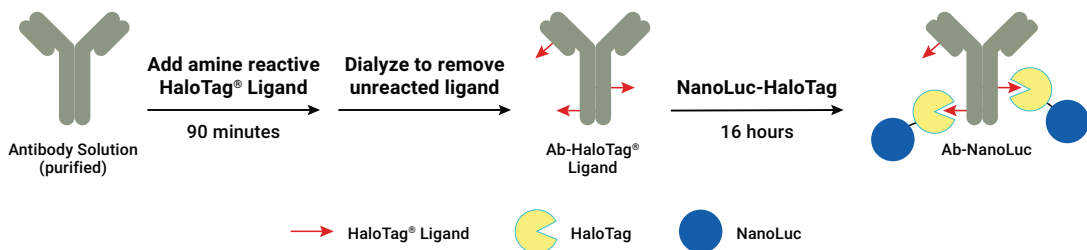

Figure 1. Schematic of antibody labeling with NanoLuc-HaloTag. A similar approach can be used to label other proteins.
In this kit, HaloTag[®] technology is used to label antibodies with NanoLuc[®] luciferase (2). HaloTag is a fusion protein that covalently binds its ligand under physiological conditions and has been used in variety of applications, including antibody labeling. Labeling is a two-step process (Figure 1) in which amine-reactive HaloTag[®] Succinimidyl Ester (O4) ligand (509Da) reacts with primary amines of lysine amino acids on the antibodies. For this reaction, antibodies should be in an amine-free buffer with no protein preservative. Antibodies labeled with HaloTag[®] Ligand are then incubated with NanoLuc-HaloTag (54.2 kDa) to make a covalent conjugate of antibody-NanoLuc-HaloTag.